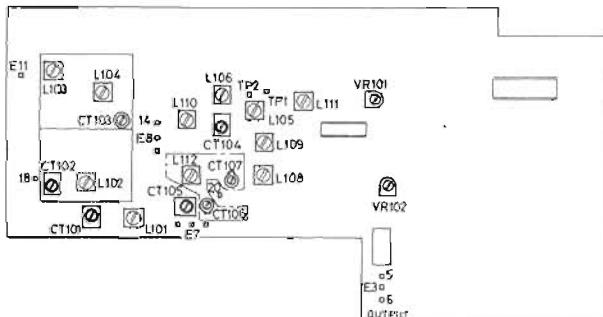

Fig. 2-1
1. Connect the oscilloscope and AC voltmeter to the output terminal. Feed 450 kHz signal from the AM signal generator to pin 14. (Fig. 2-1).